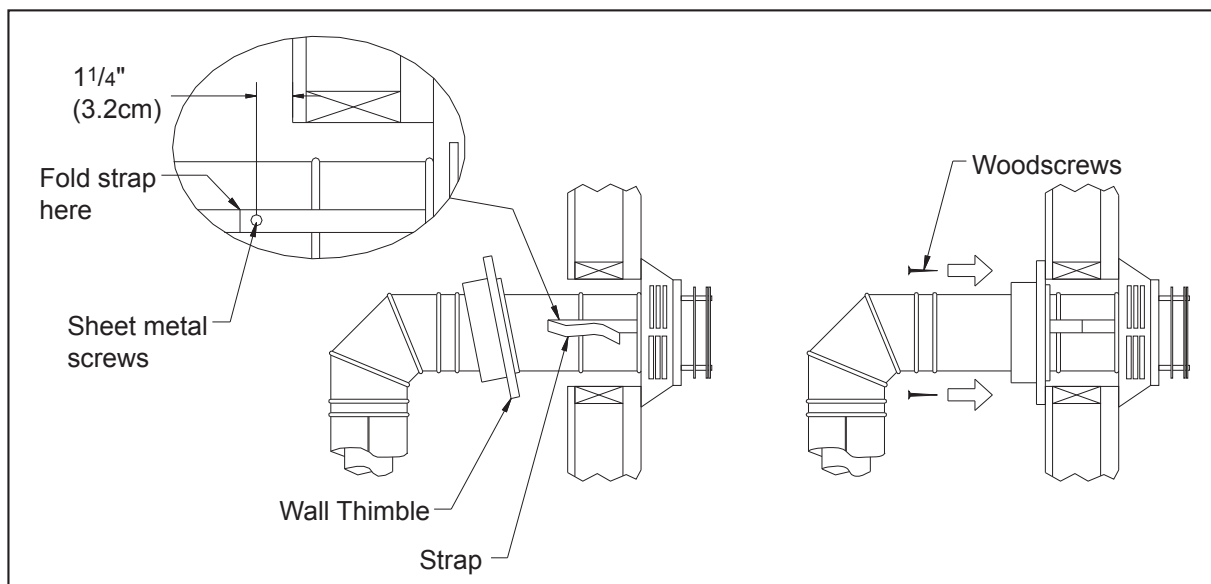

Figure 18: Installing Decorative Wall Thimble.
STEP 6. Slide the appliance and vent assembly towards the wall, carefully inserting the vent pipe into the cap assembly. It is important that the vent pipe extend into the vent cap a sufficient distance with a minimum of 1¼" (3.2 cm) overlap. Secure the connection between the vent cap pipe and the vent cap by attaching the two sheet metal straps extending from the vent cap assembly into the outer wall of the vent pipe. Use the two sheet metal screws provided to connect the straps to the vent pipe. Bend any remaining portion of the sheet metal straps back towards the vent cap, so the decorative wall thimble will conceal it (see left image in Figure 18).
STEP 7. Slide the decorative wall thimble up to the wall surface and attach with the screws provided. Apply decorative brass or chrome trim if desired (see right image in Figure 18).